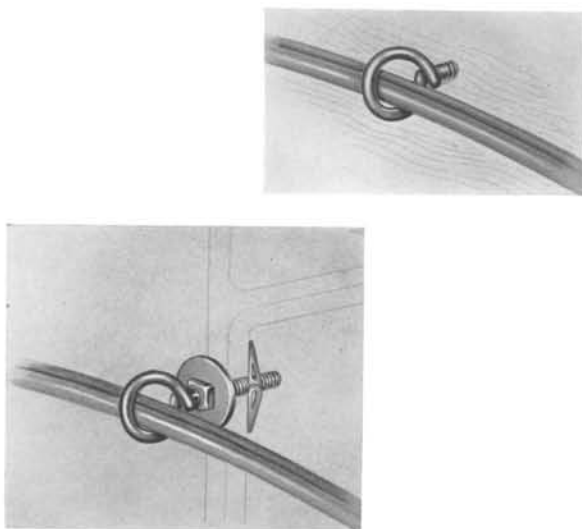

FIG. 23—BRIDLE RING AND TOGGLE BRIDLE RING
7.09 The Bridle Ring and Toggle Bridle Ring are shown in Fig. 23.